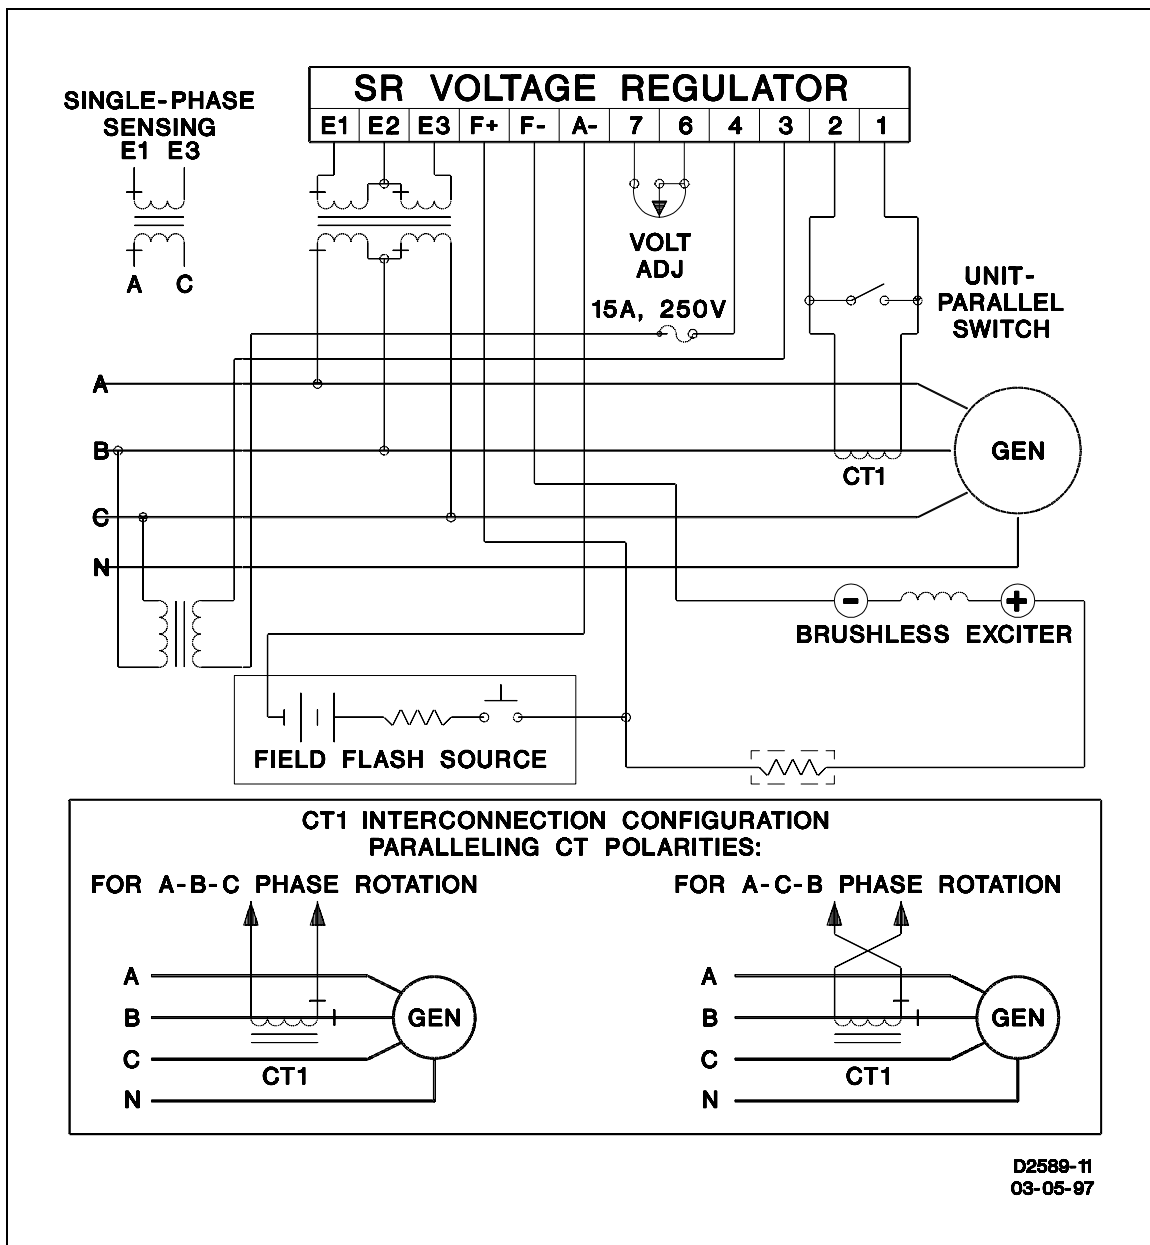

Figure 3-5. Brushless Type Rotary Exciter (or Static Exciter) Interconnection.
- c. When automatic field flashing is required, a dc source not in excess of 125 V should be used and the circuit must be interconnected as shown in Figure 3-5. A series limiting resistor may also be required to limit flashing current. Typically flashing current is limited to approximately 50% of the no-load exciter field current. An internal blocking diode (CR9) in series with the regulator A- terminal prevents the regulator output from flowing into the flashing source.